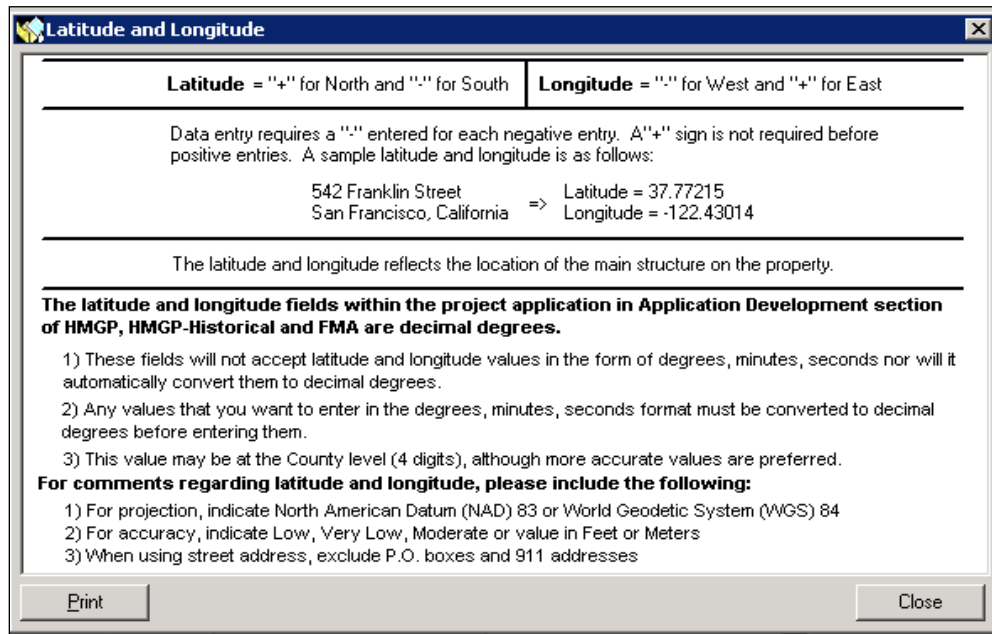

Figure 6-91: Latitude and Longitude Sample
- a. To see a sample of Latitude and Longitude entries in decimal degrees (Figure 6-91), click the SAMPLE button.